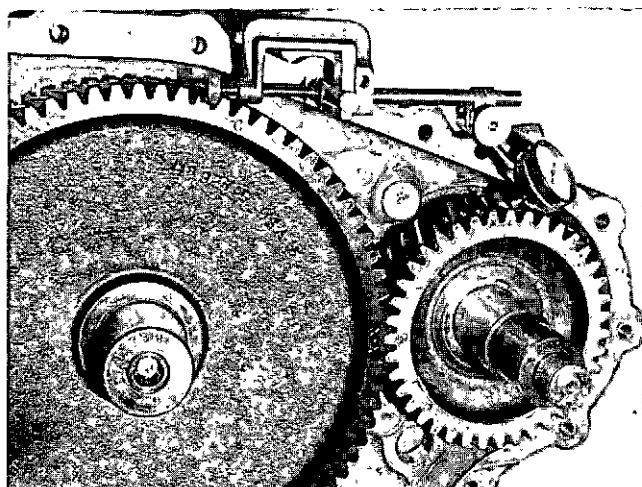

Fig. 14-1-47, V414148. Check drive gear to camshaft gear backlash
5. Check backlash of gear with dial indicator; backlash new should be 0.003 to 0.010 inch [0.0762 to 0.2540 mm]. Fig. 14-1-47.